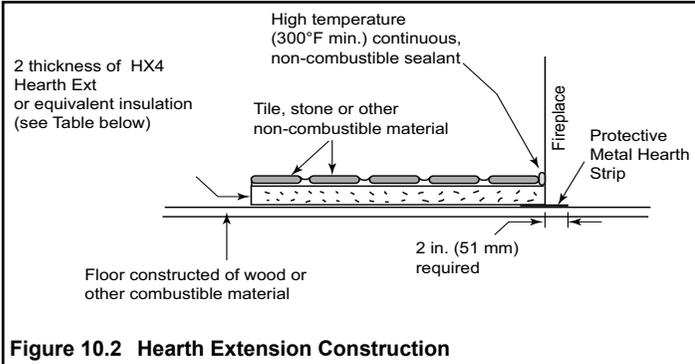
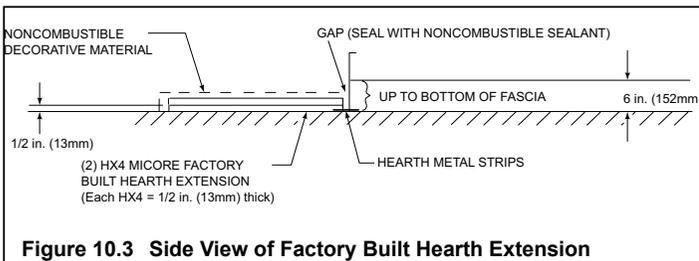

**Figure 10.1 Hearth Extension Dimension**
**Figure 10.2** Hearth Extension Construction
- Refer to Figure 10.1 for minimum dimensions.
The hearth framing must be constructed of non-combustible materials (Table 10.2) and placed on an HX4, or equivalent material (Figure 10.2). When creating the platform, allow for the thickness of the non-combustible finishing materials (Figure 10.5).
The construction of, and materials used for a hearth extension are shown in Figures 10.1 and 10.3. A hearth extension of this construction may be covered with any non-combustible decorative material and may have a maximum thickness as per Figure 10.2 Seal gaps between the hearth extension and the front of the fireplace with a bead of non-combustible sealant.
Non-combustible flooring 20 in. (508mm) in front of and 8 in. (203mm) to either side of the fuel opening with a minimum thickness of 1 in. (25mm) and ("k" value = 0.49). See Figure 10.1 on page 55 and Figures 10.3, 10.4, and 10.5.